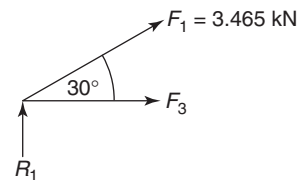

Figure 4.32
**Consider next joint (2),** as this joint now has two or less unknown forces; see Figure 4.32.